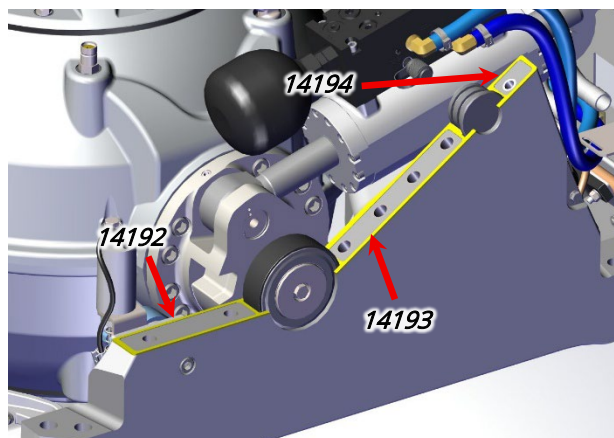

Figure 22: Brake-side gimbal cap gaskets
- a. **INSTALL** three gaskets of brake-side gimbal cap per Figure 22.